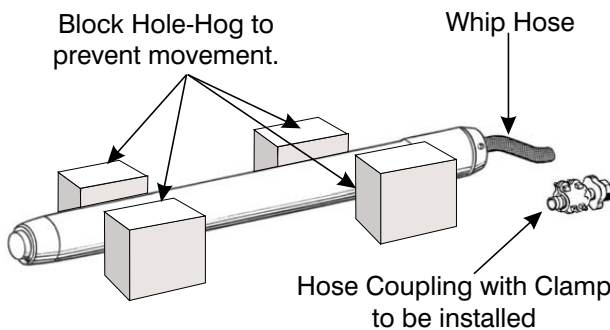

Figure 11-5. Secure Hole-Hog in place.
1. Place the Hose Coupling with Clamp (17) and the Hole-Hog on the work area tarp. Block the Hole-Hog so it will not accidentally roll off the work surface. Leave the Whip Hose (14) easily accessible as shown in Figure 11-5.
2. Inspect the new or used Hose Coupling with Clamp (16) for damage and for dirt that would damage the internal components of the Hole Hog.